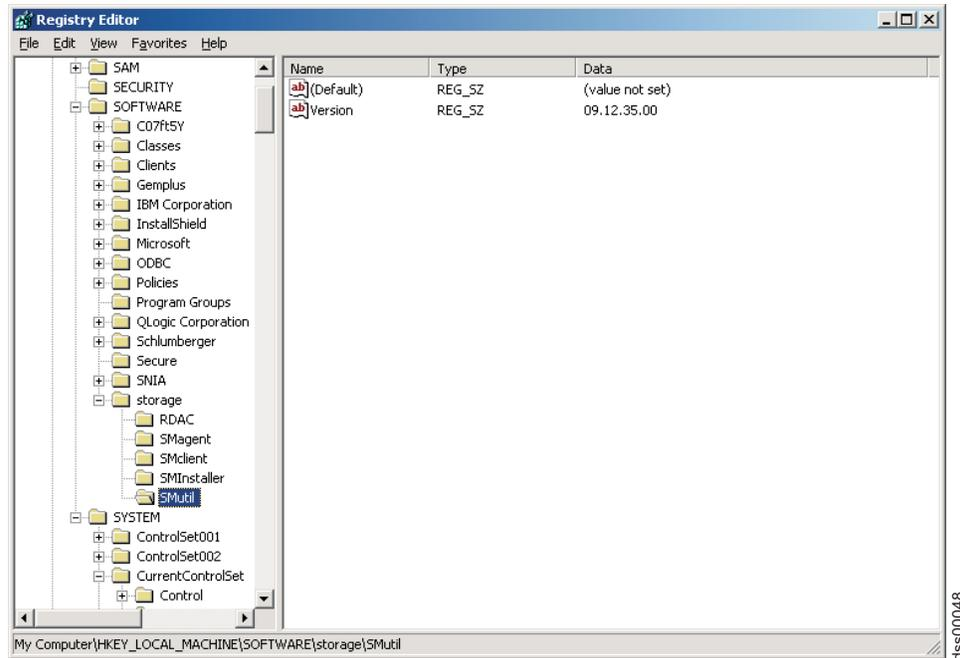

Figure 12. Registry Editor window
3. For each package that you installed, there would be a folder under the \HKEY_LOCAL_MACHINE\SOFTWARE\Storage key. Click on that folder name and look for the Version data field in the right window pane. The Version data field will have the correct version of the host software package that you installed. Record these versions for future reference. For example, Figure 12 on page 66 shows that all four host-software packages were installed in this server and the version of the SMUtil package is 09.12.35.00.